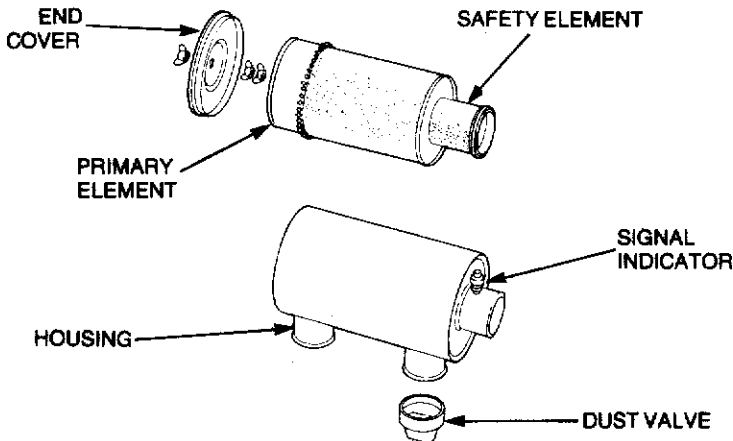

Figure 3-14 Air cleaner elements
c. Wipe out the air cleaner housing with a clean damp cloth. Remove and clean the dust valve (see Fig. 3-14).